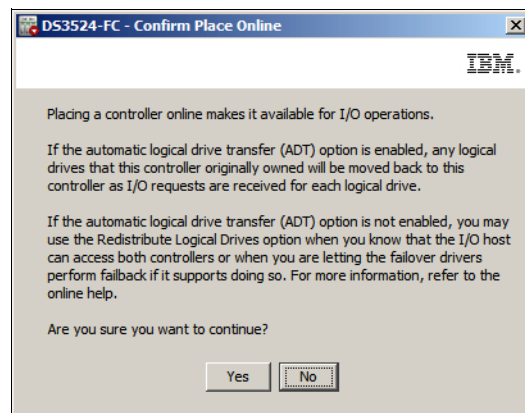

Figure 14-133 Confirm Place Online
2. The window shown in Figure 14-133 will be displayed. Read the information and then click the **Yes** button to confirm that you want to place the controller online.